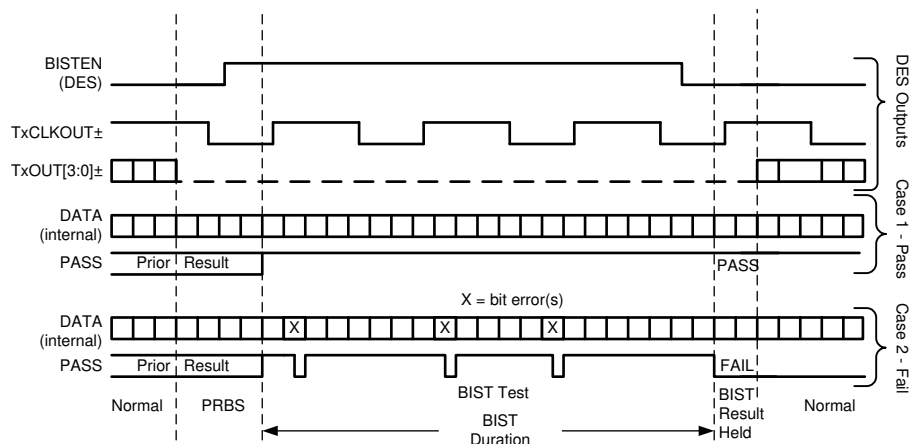

Figure 8-11. BIST Waveforms in Conjunction With Deserializer Signals
Step 4: The link returns to normal operation after the deserializer BISTEN pin is low. Figure 8-11 shows the waveform diagram of a typical BIST test for two cases. Case 1 is error-free, and Case 2 shows one with multiple errors. In most cases it is difficult to generate errors due to the robustness of the link (differential data transmission, and so forth), thus they may be introduced by greatly extending the cable length or faulting the interconnect medium.